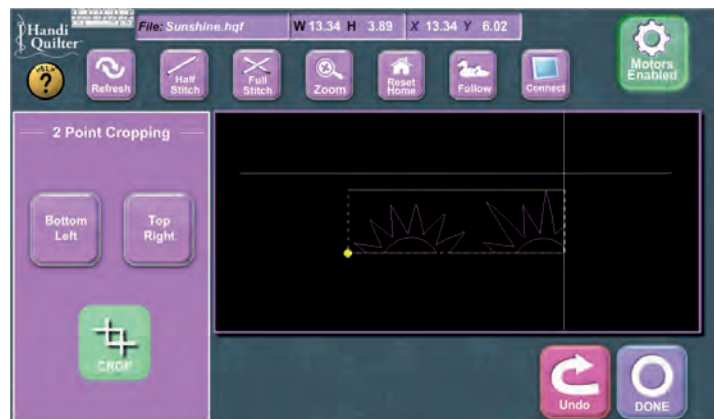

Figure 21
- Press the “Crop” button to crop the area that has just been defined (Figure 21 on next page).